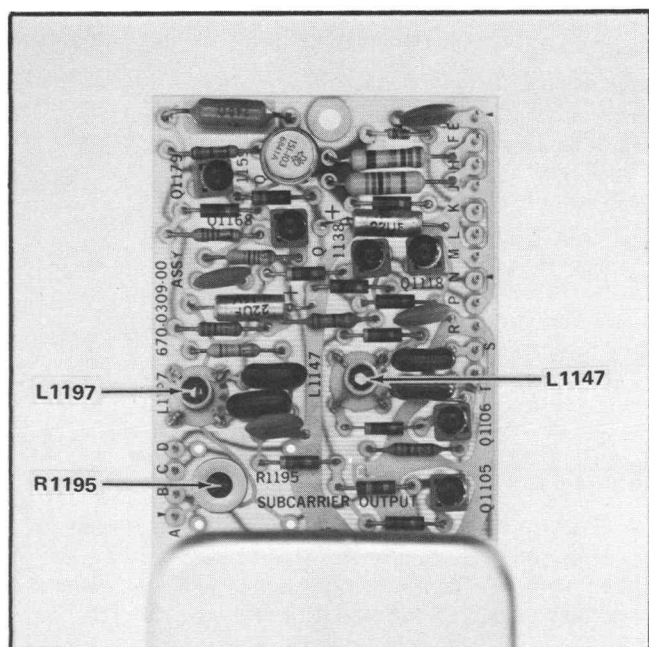

Fig. 5-4. Subcarrier Output board adjustment.
e. ADJUST—R1195, see Fig. 5-4, for 3.575611 MHz.
h. ADJUST—L1147 (see Fig. 5-4) for maximum signal amplitude as measured on the test oscilloscope.